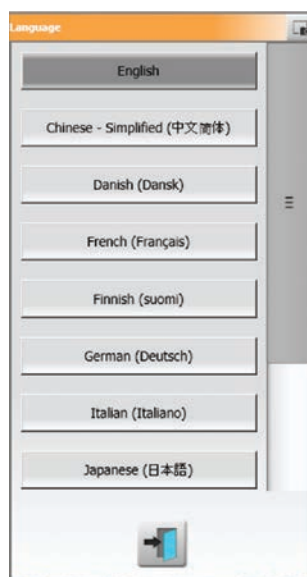

Figure 4-4 Language Selection Dialog Box
2. Touch the Language field and a window shows with a list of languages. Refer to Figure 4-4.